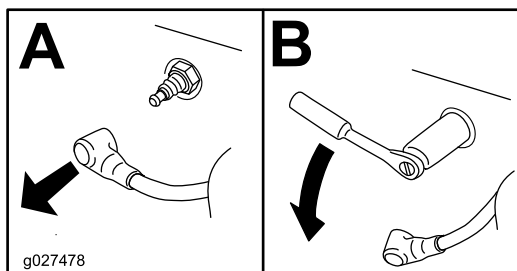

Figure 45
4. Remove the spark plug (Figure 45).